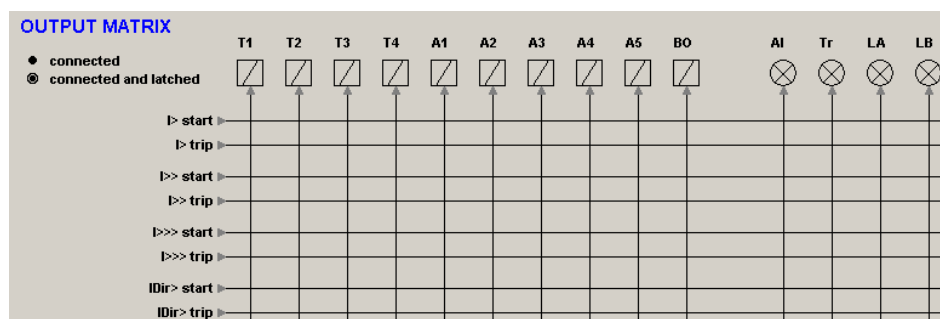

Figure 5.4-1 Output matrix.
There are two LED indicators named "Alarm" and "Trip" on the front panel. Furthermore there are three general purpose LED indicators – "A", "B" and "C" – available for customer-specific indications. In addition, the triggering of the disturbance recorder (DR) and virtual outputs are configurable in the output matrix. See an example in Figure 5.4-1.